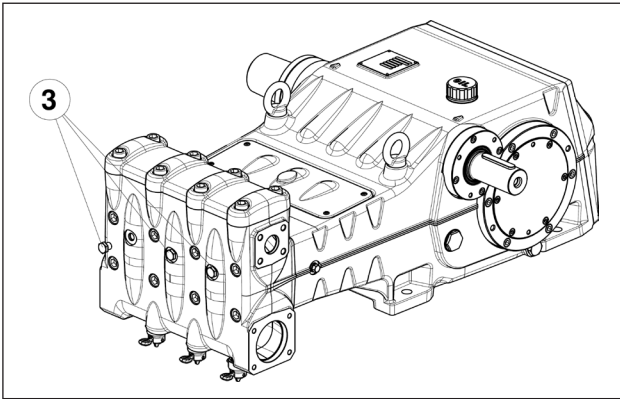

Fig. 11
**Should there be any priming trouble due to insufficient supply, it is possible to remove the three plugs in front of the head (except for the LK36 version) as shown in pos. ③ Fig. 11.**